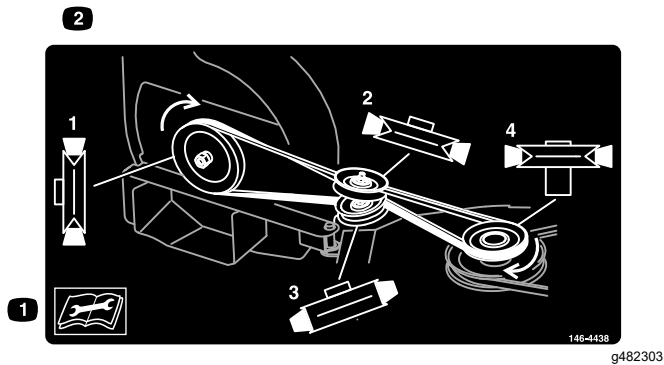

Figure 29
- Install the belt around the blower and idler pulleys as shown in Figure 29. Place the belt